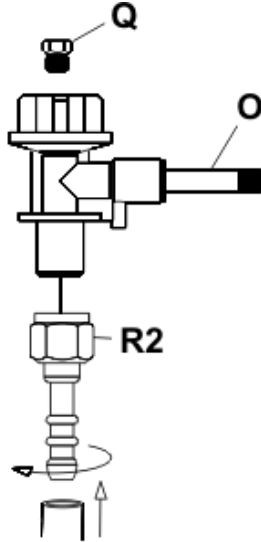

Fig. 4a
- Place the Tripod assembly onto its feet and locate the Burner Pan (D) onto the Stem (F) by inserting the Stem into the Burner inlet at the bottom of the Pan.
- **I 3B/P (30) and I 3+ (28-30/37) Appliance categories:** (DK, FI, NO, NL, SE, AT, DE, BE, ES, FR, IE, IT, PT, GB, CH)
Fit the Valve Tailpiece (R2) onto the Valve (O) (Fig.4a) by screwing it on in an anti-clockwise direction. Push an 8mm inside diameter Hose onto the Valve Tailpiece (R2) until it is properly seated (See Fig.4a). On the other end, attach a suitable 30mbar low-pressure (I 3B/P (30) and I 3+ (28-30/37) Butane configurations) or 37mBar low-pressure regulator (I 3+ (28-30/37) Propane configuration), again making sure that the hose is well seated. The hose used must comply with BS 3212:1991 / SABS 1156-2 or equivalent. In South Africa the regulator used must comply with SANS 1237.